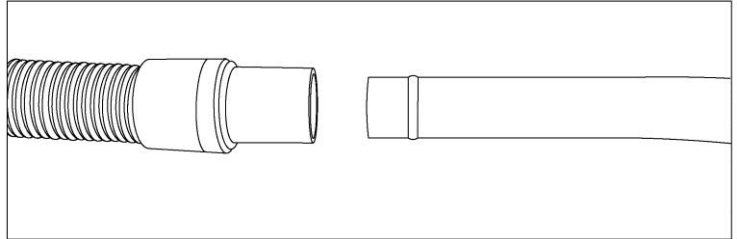

Fig. 8
- To connect the hose and attachment wand, slide the hose over the hose end wand attachment and over the bump by approx. ½ inch. (Fig. 8)